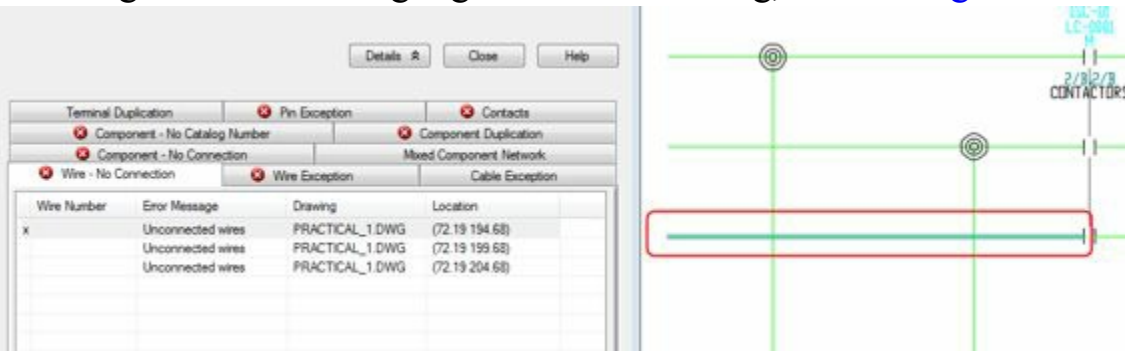

Figure-18. Component of error highlighted
- Select the error from the table and click on the **Go To** button from the dialog box. The component having error will be highlighted in the drawing; refer to Figure-18.